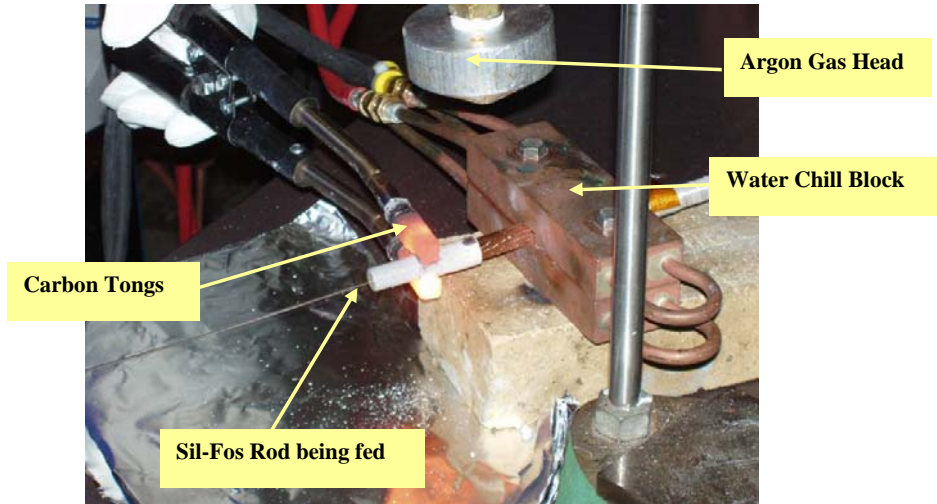

Figure 16-Feeding the Lead Connector w/Sil-Fos
- 6.13.8 Position the bare copper rope conductor into the water chill blocks and position the Argon gas head directly over the copper terminal. [Figure 16-Feeding the Lead Connector w/Sil-Fos]
- 6.13.11 Place the center toggle switch to “HIGH”, and using the carbon tongs heat the copper connector. Once at temperature, feed the Sil-Fos rod through the feedhole at the threaded end of the connector until liquid braze material is visible at the conductor side of the connector. Reposition the tongs to the conductor side and feed the Sil-Fos rod through the backside of the connector until liquid braze material is visible at the threaded end of the connector. [See Figure 16-Feeding the Lead Connector w/Sil-Fos]